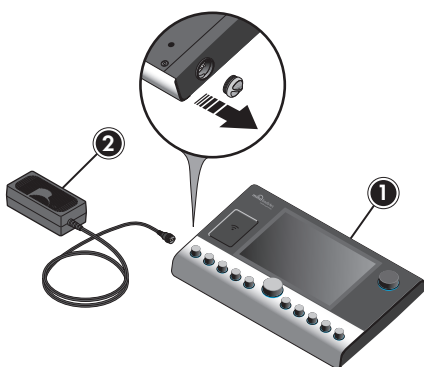

Fig. 53: Connecting the control unit
1. ➔ Remove the connector cover of the electrical connection on the control unit (Fig. 53/1). Connect the magnetic plug of the power supply unit (Fig. 53/2) into the magnetic socket of the control unit.
2. ➔ **i** When connecting the power cable (Fig. 53/2), make sure the magnetic plug connection is safely locked in place.
Connect the power cable to the power supply unit (Fig. 53/2).